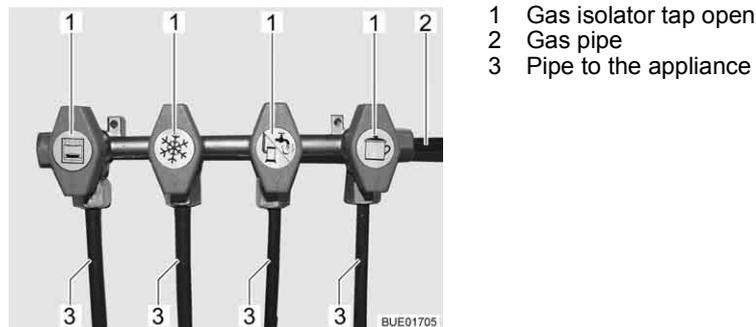

Fig. 131 Gas shut-off valves position (example)
- Position the gas isolator tap of the corresponding gas device parallel (Fig. 131,1) to the pipe (Fig. 131,3) leading to the device.